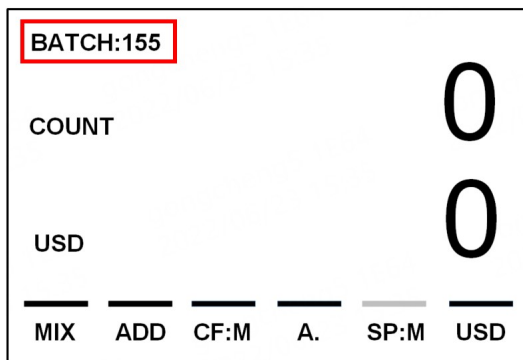

Figure 44
3) Please press the "CLEAR/ESC" key on the right side of the frame several times until the machine returns to the main interface. Press the "BATCH" key on the left side of the frame or touch the "BTACH: 200" character in the upper left corner of the display screen to switch the preset number until it is switched to "B: 155", as shown in Figure 44 below.